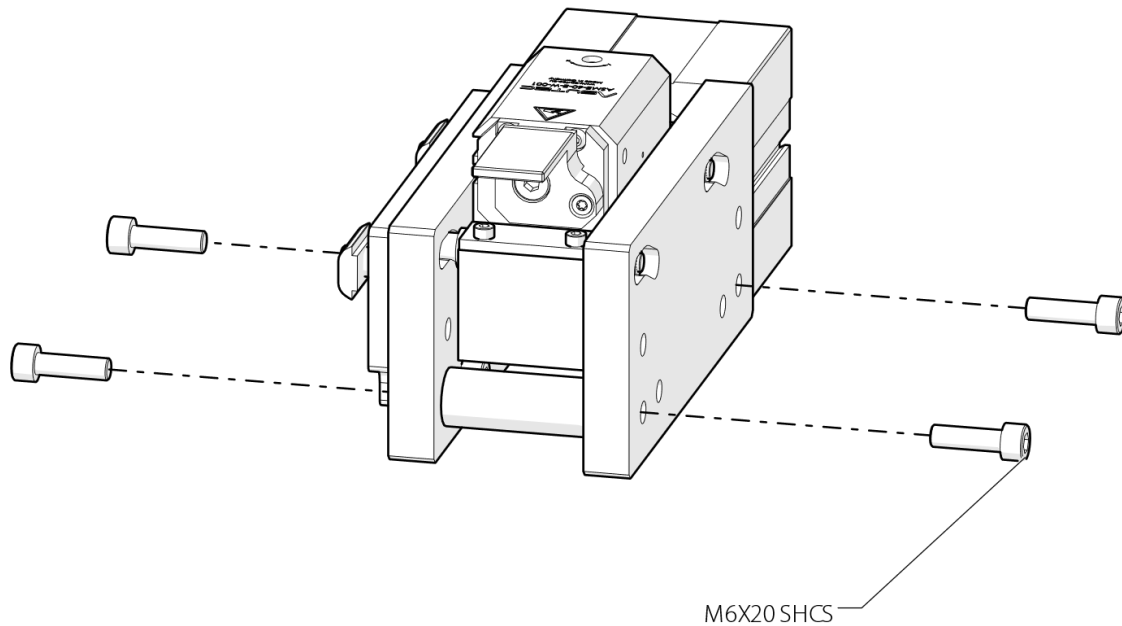

Figure 40: Remove M6X20 SHCS
Step 1: Remove M6X20 SHCS as shown in Figure 40.